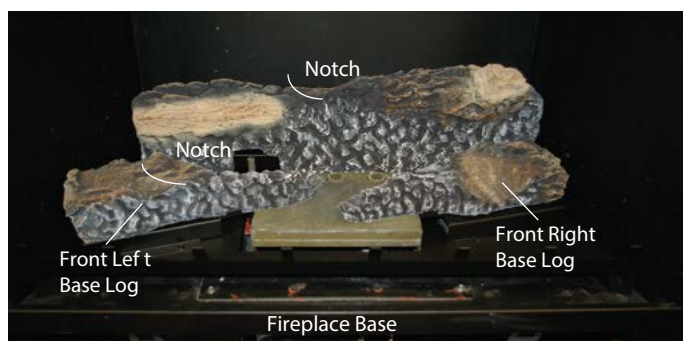

Figure 8c. Front base logs placement.
Step 3. Install Both front base logs, (**Figure 8c**) on the log stands provided. See **Figure 8b**.